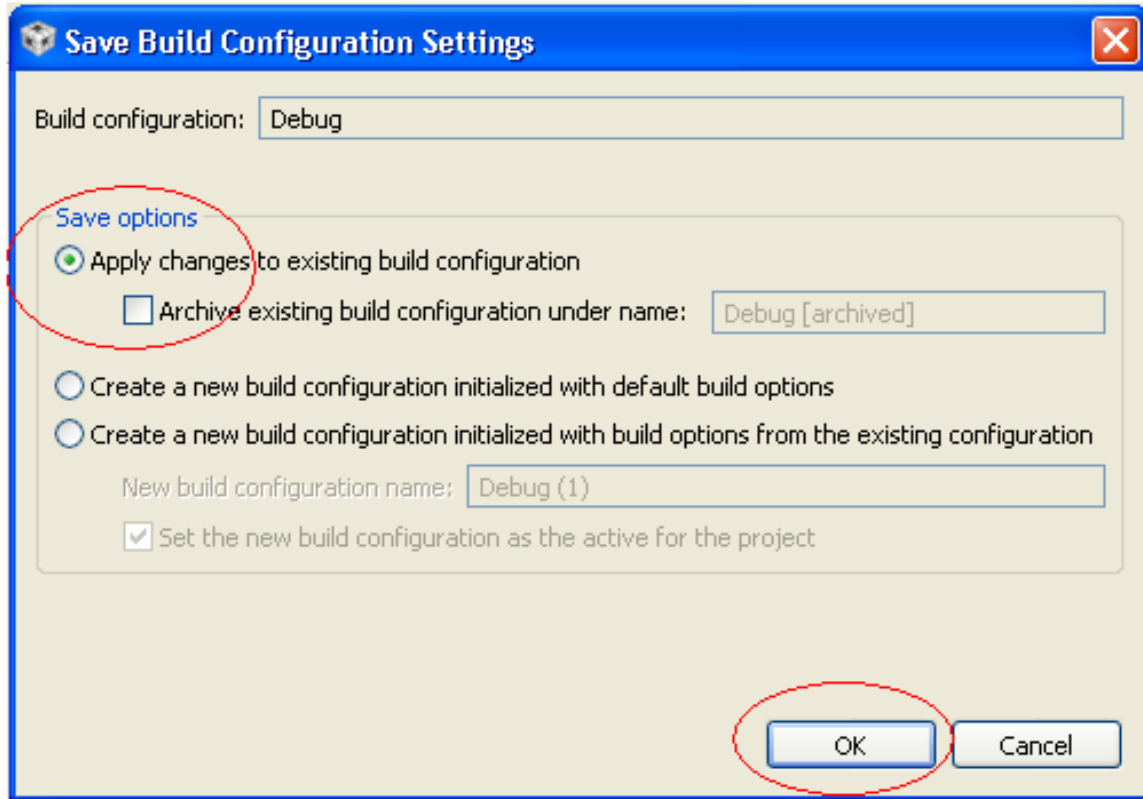

Figure 24. Save Build Configuration Settings
- The Build Configuration Settings window will appear → select options as in Figure 24 → click on the OK button.